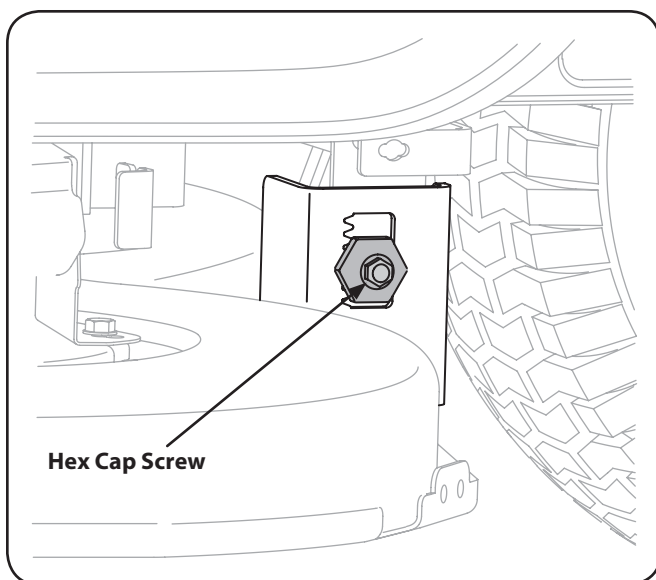

Figure 6-5
3. Loosen, but do NOT remove, the hex cap screw on the left deck hanger bracket. See Figure 6-5.